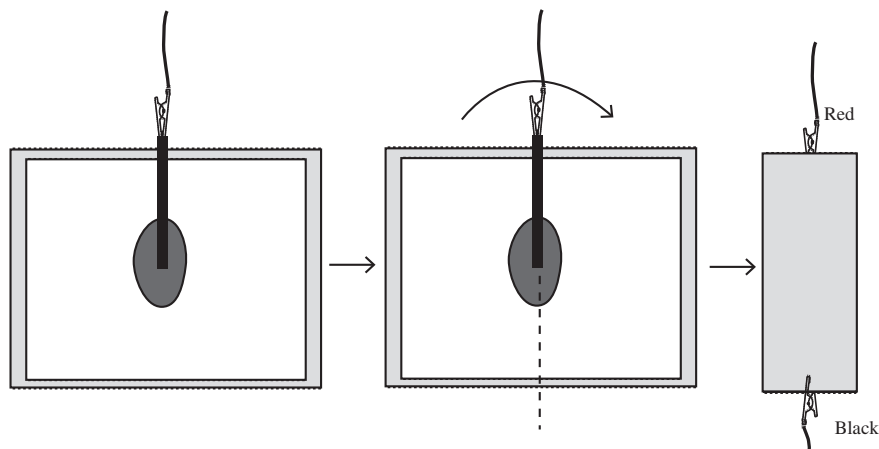

Figure 4.
9. Carefully fold the aluminum foil and paper towel in half as shown in Figure 4. *Note:* Be sure the paper towel stays between the aluminum foil and the activated charcoal.
11. Clip one end of the black connector cord to the aluminum foil. (See Figure 4.)